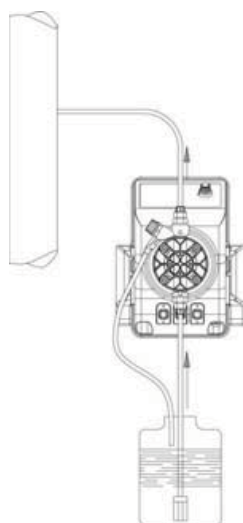
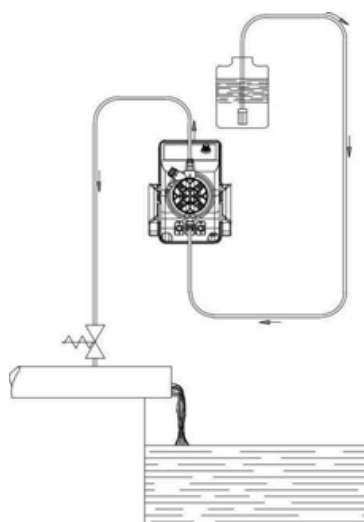

Fig. 5
Fig. 6
- c.** - Locate the pump as shown in fig. 5 bearing in mind that it may be installed either below or above the level of the liquid to be dosed, though the level difference should not exceed 2 meters. When the process plant in which the pump is installed is operating at atmospheric pressure (no back pressure) and the chemical tank is situated above the plant (Fig. 6), the condition of the injection valve should be checked at regular intervals, because excessive wear and tear could cause additive to drip into the plant even when the pump is shut down. If the problem persists, install a properly calibrate counter-pressure valve (C) between injection point and the valve. In the case of liquids that generate aggressive vapours, do not install the pump above the storage tank unless the latter is hermetically sealed.